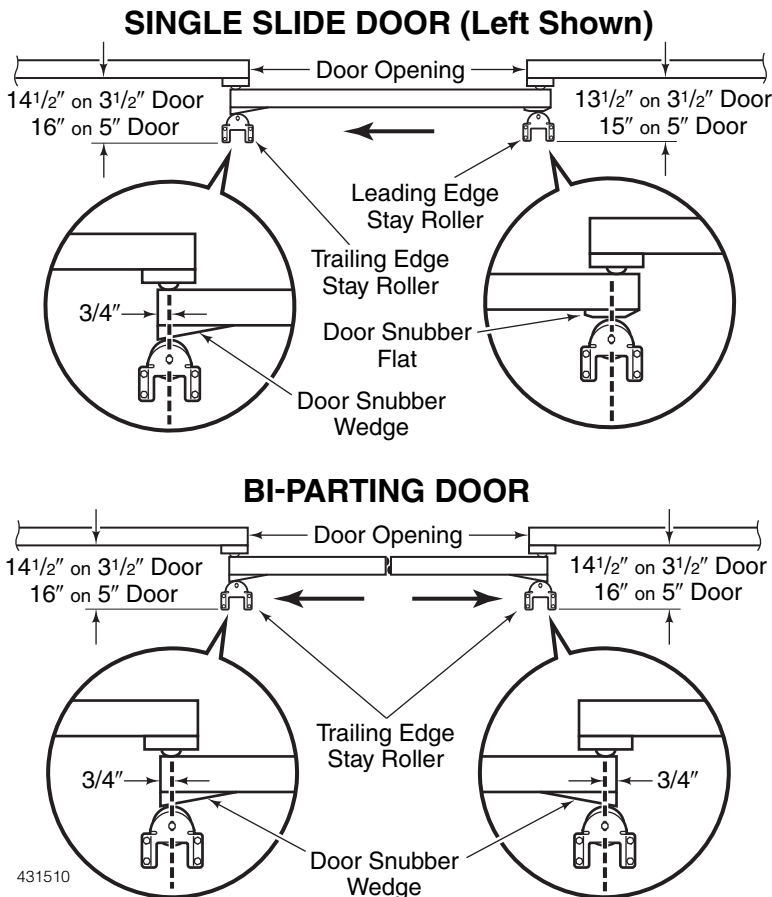

Figure 11
3. Be sure each Stay Roller Lock Nut is centered in the adjustment slot. Note the distance from the wall for *your* door size and type. See Figure 11. With Bi-Parting door(s) fully closed, position the center of the Trailing Edge Stay Roller 3/4" in from the end of the Door Snubber Wedge. For Single Slide Doors, center the Leading Edge Stay Roller on the flat spot on the Door Snubber.